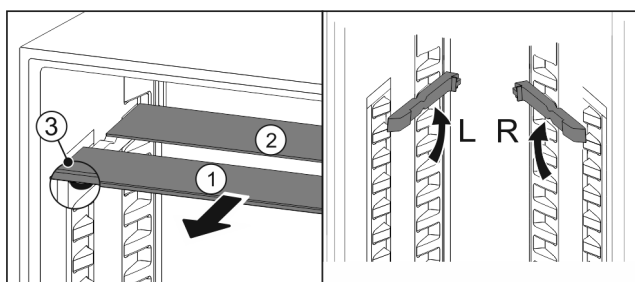

Fig. 21
- ▶ Pull the glass panels out Fig. 21 (1) from the front, one at a time.
- ▷ The glass panel Fig. 21 (1) and trim strip are at the front.
- ▷ The stops Fig. 21 (3) point down.